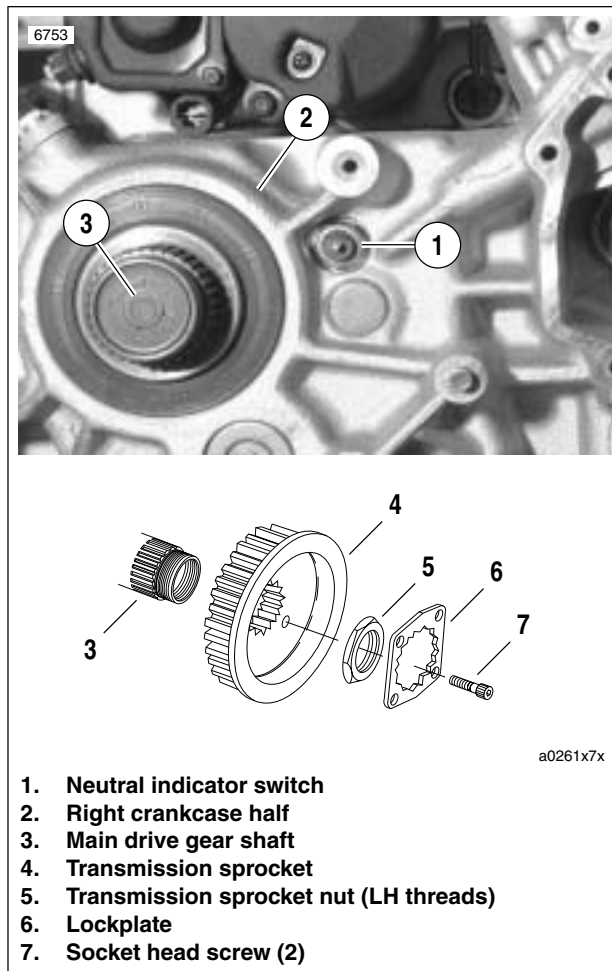

Figure 7-77. Neutral Indicator Switch
See Figure 7-77. The neutral indicator switch (1) is threaded into the transmission portion of the right crankcase half (2); it is immediately forward of the main drive gear shaft (3). The sprocket cover must be removed to test the switch. If switch requires replacement, secondary drive belt and transmission sprocket must also be removed; there is not enough clearance to allow the removal of the switch without first removing the transmission sprocket.
3. See Figure 7-77. Place transmission in first gear. Remove two socket head screws (7) and lockplate (6).
4. See Figure 7-77. Remove transmission sprocket nut (5) from main drive gear shaft (3).
5. Remove transmission sprocket (4) (with secondary drive belt) from main drive gear shaft (3).
6. Remove wire lead from neutral indicator switch (1). Remove switch from right crankcase half (2).
- a. Apply a light coating of Loctite 243 (blue) to **new** neutral indicator switch (1) threads.
8. Install transmission sprocket (4) (with secondary drive belt) onto main drive gear shaft (3). See 6.14 TRANSMISSION SPROCKET.